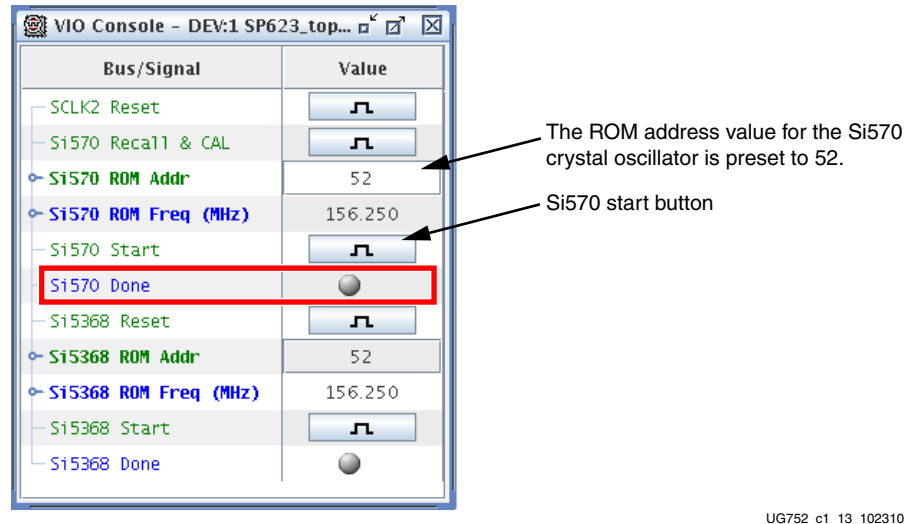

Figure 1-12: VIO Console, Si570 Initialization
- b. If using the Si570 crystal to source the GTP transceiver clocks, click the Si570 Start button (Figure 1-12). A transition arrow flashes ON/OFF to the right of **Si570 Done** when the command is complete.